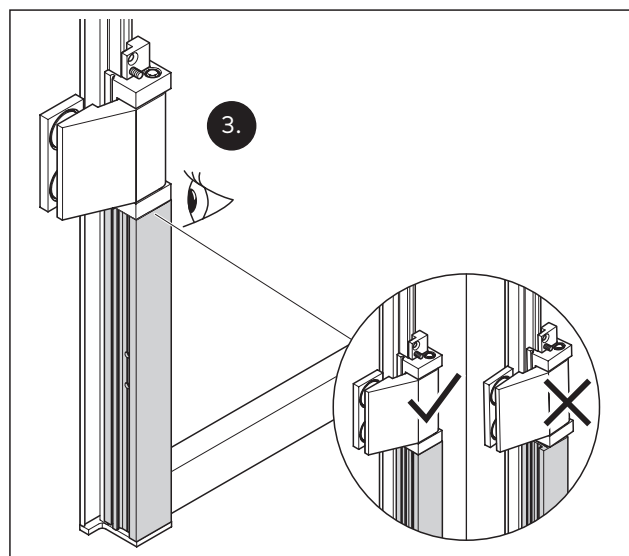

Fig. 34 Align the door hinge's alignment with the cover profile for the door frame
3. Align the door hinge's alignment with the cover profile for the door frame's alignment (Fig. 34).
6. Make sure that the door hinge remains aligned with the cover profile for the door frame's alignment (see Fig. 34).
9. Ensure that the alignment of the door hinge is aligned with the cover profile for the door frame's alignment (see Fig. 34).